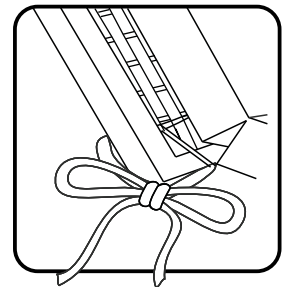

Figure 4
Attach Cushion (A) to unit with tie-downs. (See Figure 4)